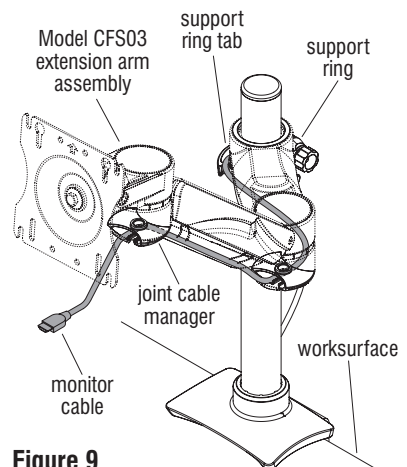

Figure 9
4. Feed monitor cables through joint cable managers located on the underside of extension arm assembly (Figure 9).